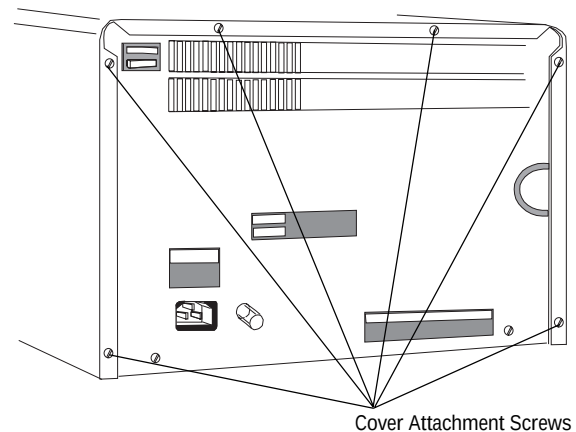

Figure 7-1
2. Remove the six screws securing outer cover assembly (Figure 7-1).
2. Remove outer cover from unit (Figure 7-1).
1. Unplug unit from wall outlet. Verify unit is cool. Remove outer cover from unit (Figure 7-1).
2. Remove outer enclosure (see Fig. 7-1).